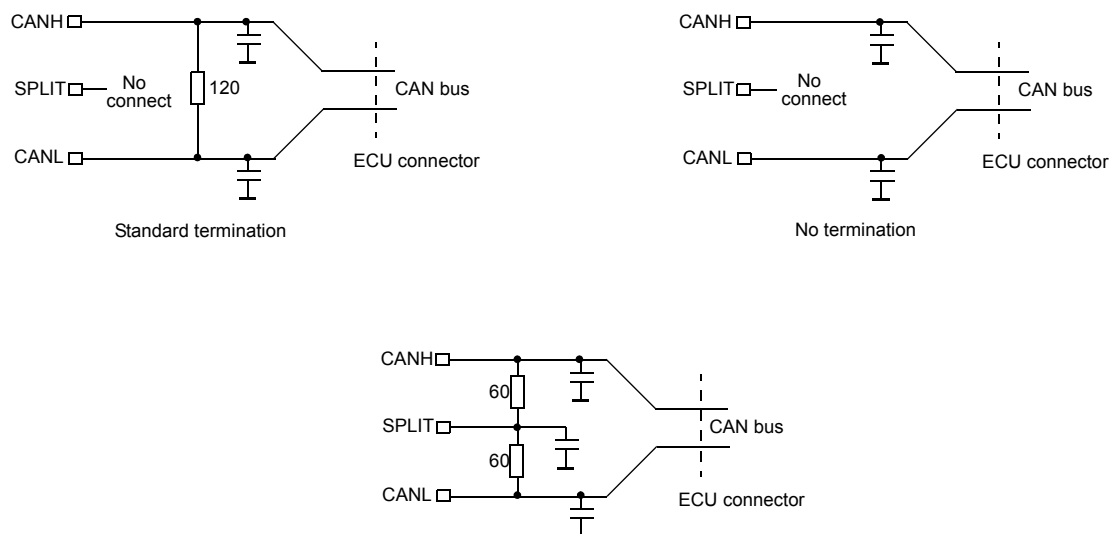

Figure 34. Bus Termination Options
- Figure 34 illustrates some of the most common terminations.